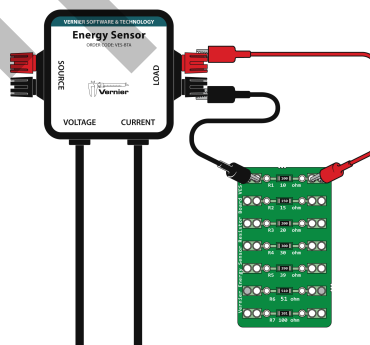

Figure 2
- Clip one end of a wire lead to the black Load terminal and the other end of the wire lead to the hole on the left side of the 10 ohm resistor (see Figure 2). **Note:** If you have a black wire lead, use it. If not, you can use any other color.